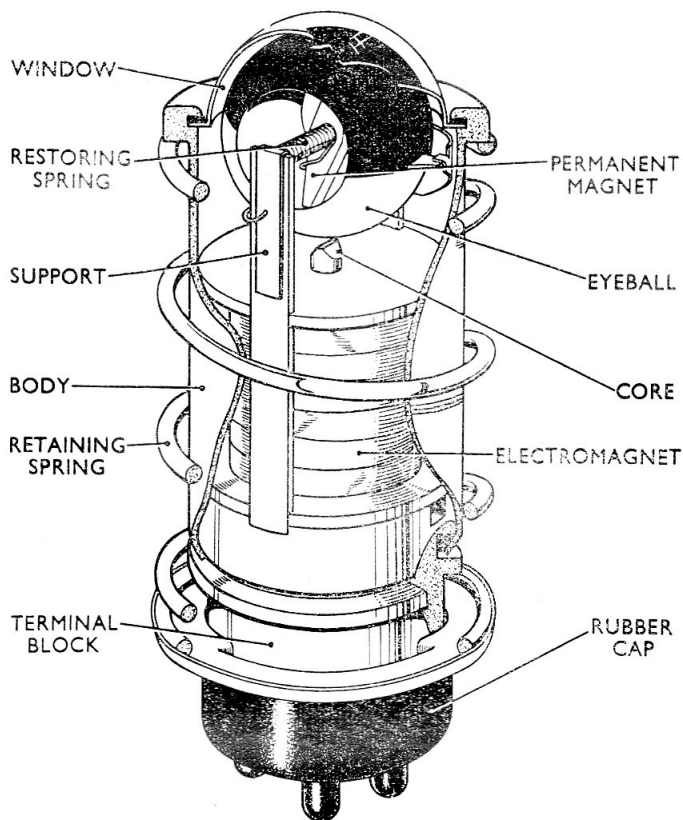

Fig. 2. Sectional view of two-position indicator
5. A view of a two position drum type indicator is shown in fig. 1 and a view showing the construction of a two-position eyeball indicator in fig. 2.